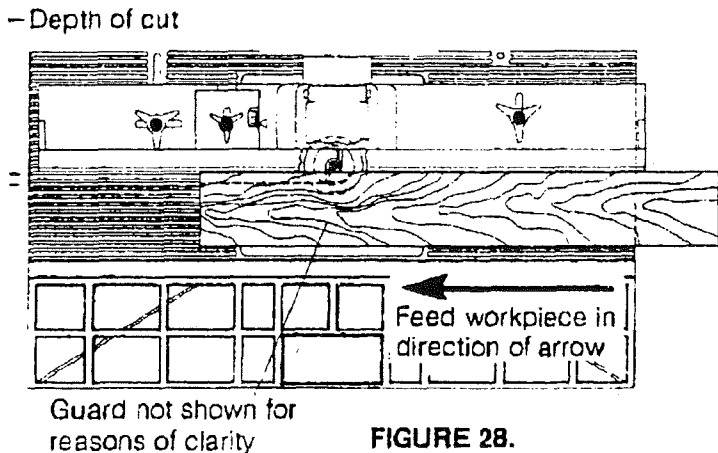

FIGURE 28.
2. Move the unitized fence back only enough to permit the pilot to control the cutting depth. Positioning the unitized fence as close to the pilot as possible will serve as a backup and will help to prevent chances of an accident, and possible personal injury, See Figure 28.